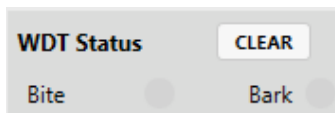

Figure 37: Watchdog Status Monitor
5. Monitor the watchdog status (see Figure 37).